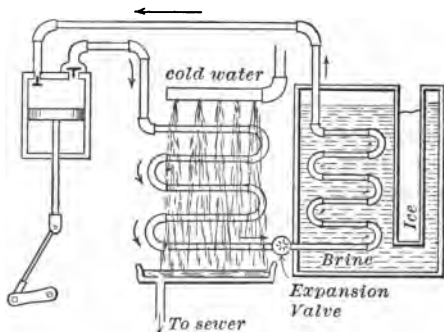

FIG. 179. — Diagram of cold-storage plant.
**212. Artificial ice.** In the manufacture of artificial ice and in refrigerating plants (Fig. 179), gaseous ammonia is compressed by a pump and then cooled until it liquefies. During this process of compression and of condensation, heat is evolved, which is removed by passing the ammonia through a pipe covered with running water. The liquefied ammonia is then piped to the ice tank or cold-storage room, and allowed to expand through a valve with a small opening. This checks the flow, and so enables the pump to maintain enough pressure to keep the ammonia in liquid form on its way to the valve; while beyond the valve the pressure is very small, so that the ammonia expands and evaporates rapidly. While doing so, it absorbs heat from the refrigerating room. It is then ready to be compressed again.